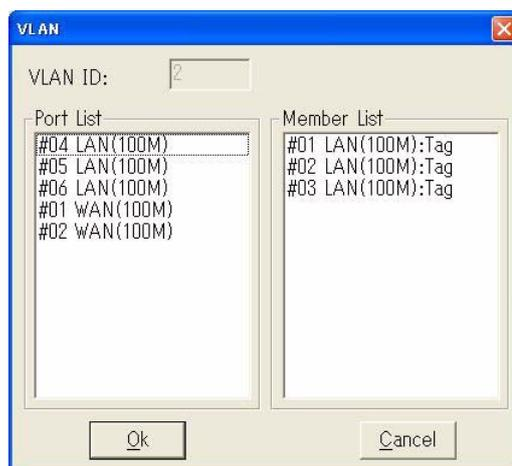

Fig. 4-4-69 Modifying VLAN
- 6 If need to modify a VLAN, select the VLAN and click modify button. *Fig. 4-4-69* appears: